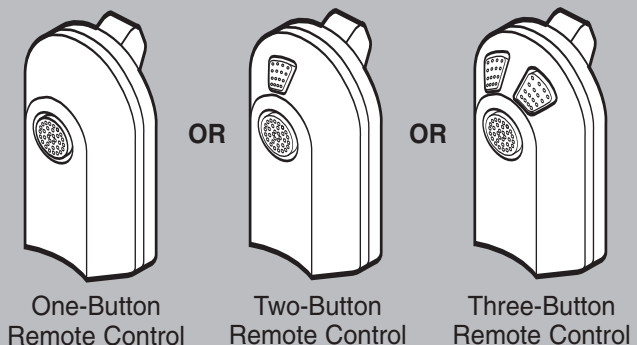

Fig. 6-3 Remote controls. (vary by model)
1. Program one button remote (Fig. 6-3).
2. Program multi-button remote (Fig. 6-3).